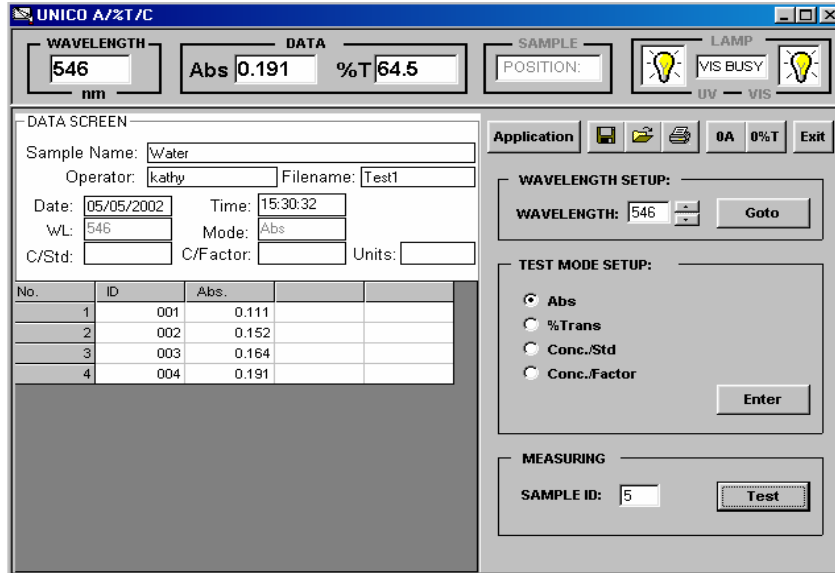
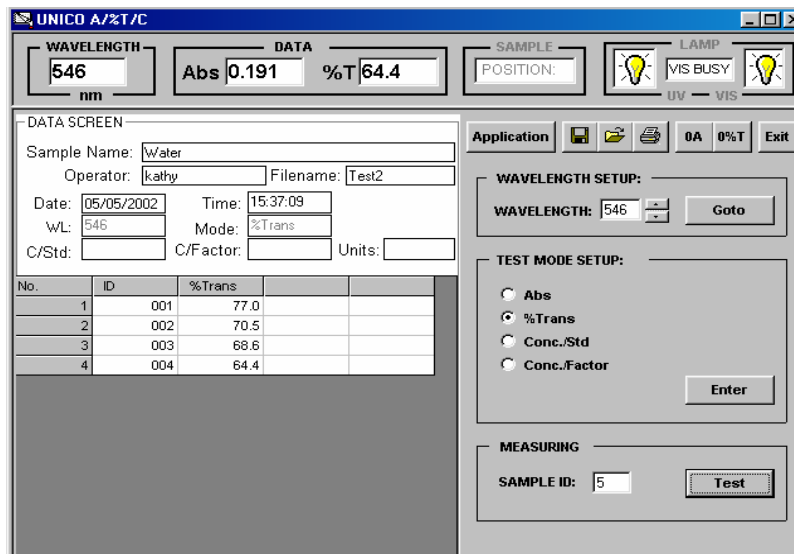

Figure-21 Sample Test Results of Abs Mode
Figure-22 Sample Test Results of %Trans Mode
- Step 6: Remove the reference (if it is there) and place your sample cuvette into the Sample Compartment, close the lid and click on **TEST** Button. The test results will be displayed in a spreadsheet format in the **Data Table** at the **Data Screen**. Two sample test results are shown in Figure-21 and Figure-22.